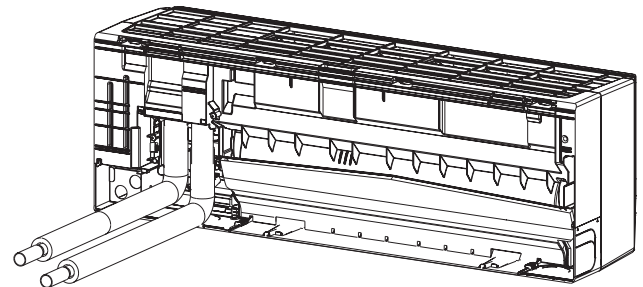

Fig. 3-20
- (8) Attach insulation materials (J) to the cut parts (C) of the pipe covers to insulate them. (Fig. 3-20)
- (9) Attach Box cover (A).